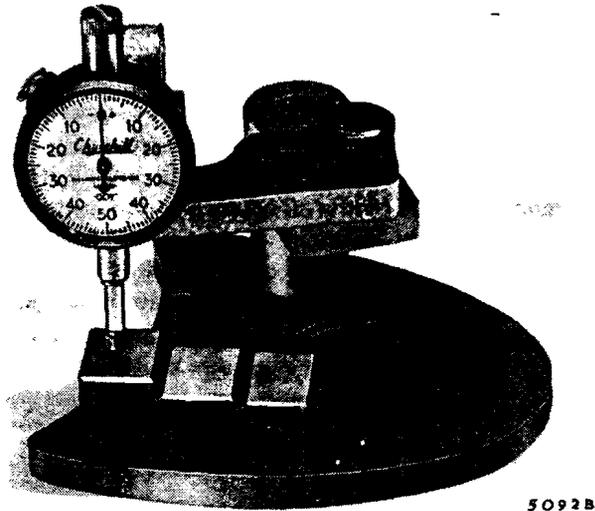
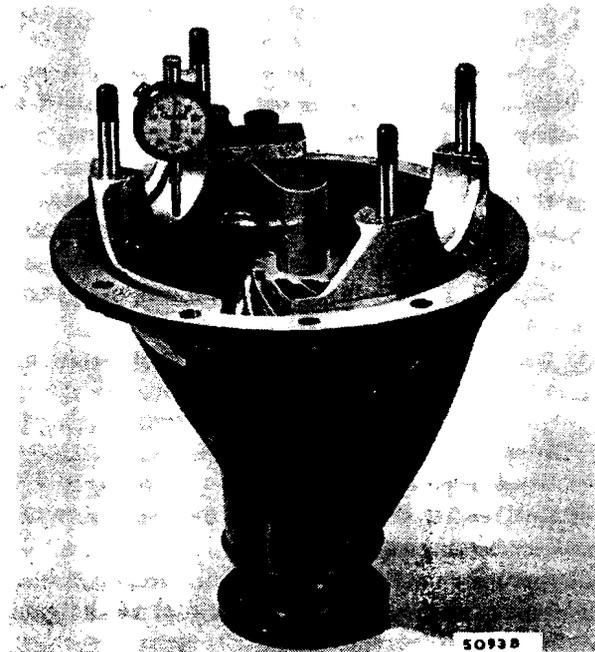

Fig. F.9
Fig. F.10
- (8) Using the setting block provided with tool 18G191B, adjust the clock gauge to read zero on the machined step marked 'C'. Ensure that the knurled screw of the gauge is fully tightened, otherwise inaccurate readings will be obtained (Fig. F.9).
- (9) Ensure that the pinion head and the differential case bearing bores are clean.
- (10) Place the magnet in position on the pinion head.
- (11) Move the clock arm until the foot of the gauge rests on the centre of one differential bearing bore and retighten the knurled screw. Take the maximum depth reading and note the greatest variation from zero (see Fig. F.10). Make a similar check on the other bore.
Set the gauge to zero on the step 'C' before gauging as illustrated in Fig. F.10